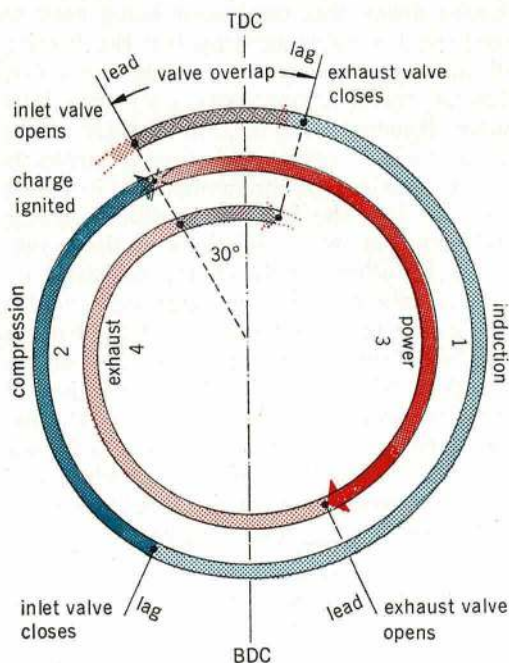

Fig 1.1.4 Valve timing
12. It is usual to represent the opening and closing of the inlet and exhaust valves, together with the point of ignition of the charge, by means of a timing diagram and this is illustrated at Fig 1.1.4.
it is that ignition must occur at the proper time, *ie* after the mixture has been compressed. All these things must happen in the proper sequence to obtain maximum efficiency. The sequence of operations is related to crankshaft movement and is always expressed in degrees (see Fig 1.1.4).